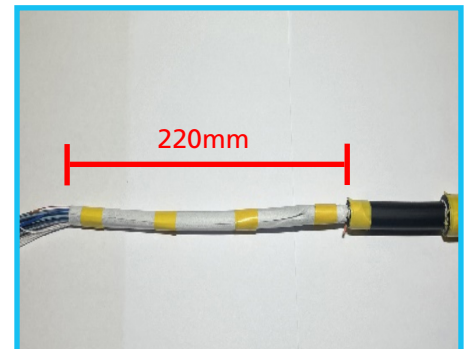

Figure 4.3
3. Remove the inner sheath to the mark. Cut back the water blocking tape, leaving 220mm from the ring cut. Loosely secure the water blocking tape over the fibres using electrical tape [figure 4.3].